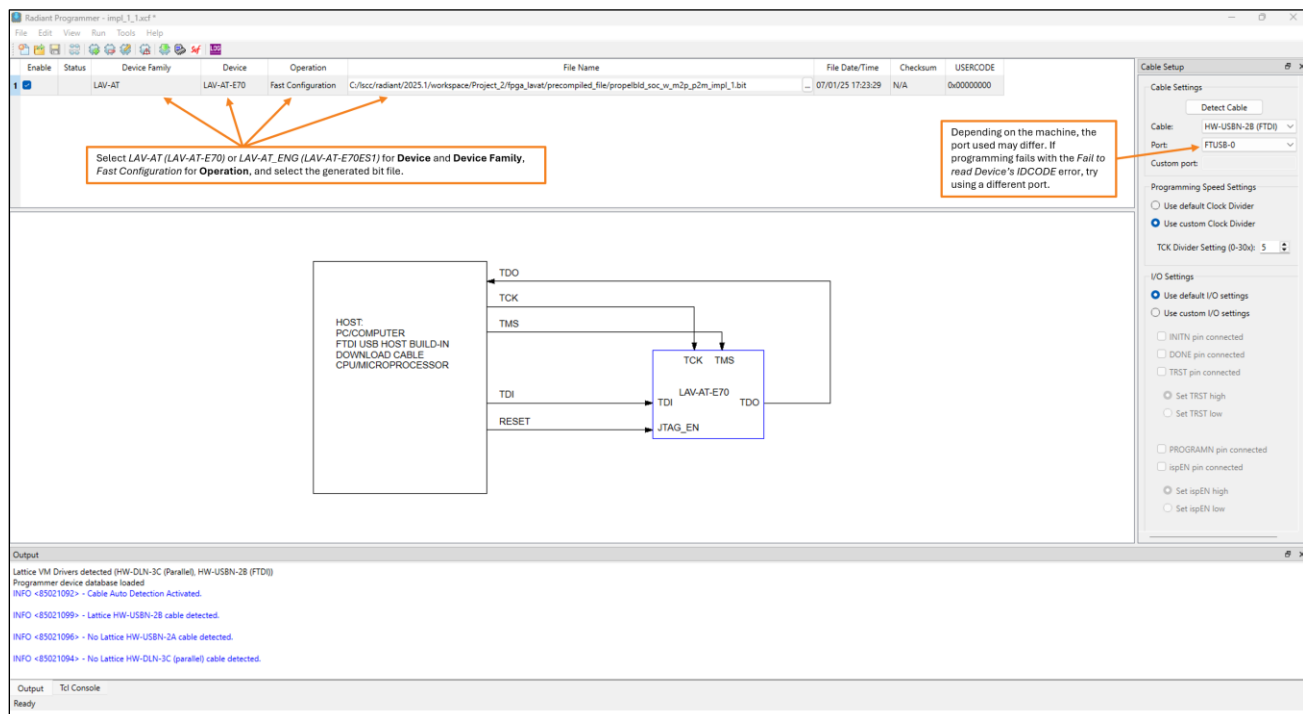

Figure 8.2. The Lattice Radiant Programmer Setup
3. Launch the Lattice Radiant Programmer, and program the board as shown in Figure 8.2.